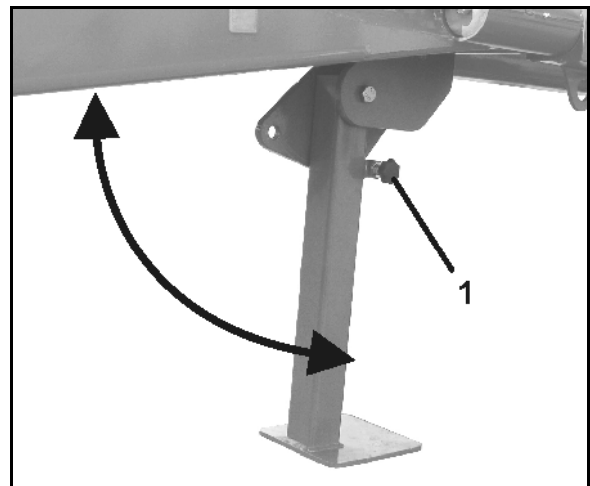

Fig. 36
1. Pull out the star grip (Fig. 36/1).